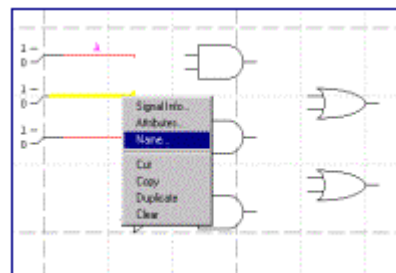

Figure 10-8
- Right-click on the wire you want to name as shown in figure 10-8..
- Select *Name* from the box that appears, as in figure 10-8.